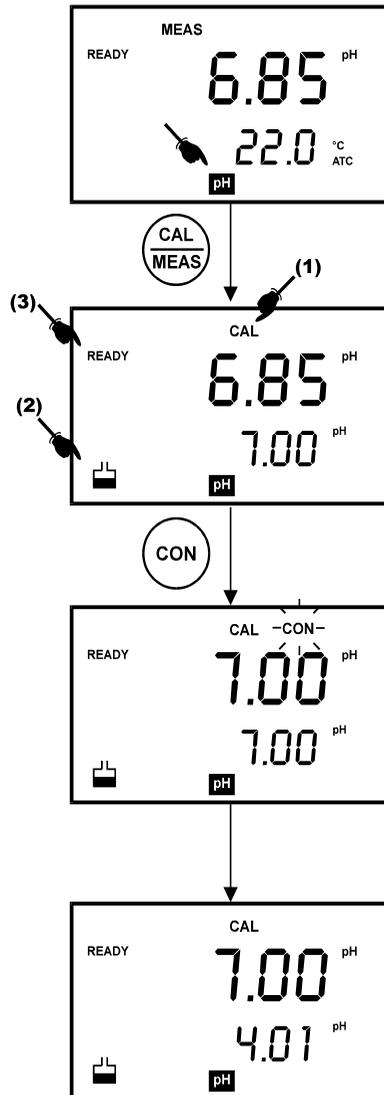

Figure 15: pH Calibration at pH 7.00
To activate the Automatic Temperature Compensation (ATC), simply plug in the temperature probe into the phono jack. The ATC indicator will be displayed on the LCD (Figure 15). If the ATC indicator is not displayed, it indicates that the temperature probe is either not properly connected to the instrument or is faulty.
6. The display will show the [CAL] mode and the buffer icon as shown (see [1] & [2] in Figure 15).
8. Wait for the measured pH value to stabilize. The READY annunciator will light up. See [3] in Figure 15.